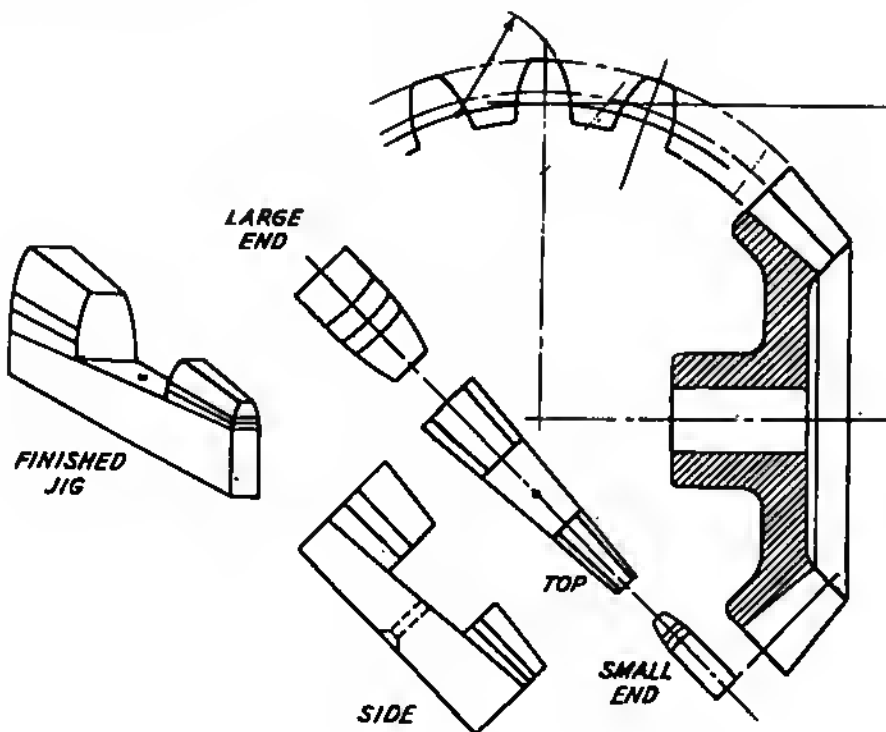

FIG. 244.
1. Make a layout first to get all diameters and the shape of the teeth (Fig. 244).